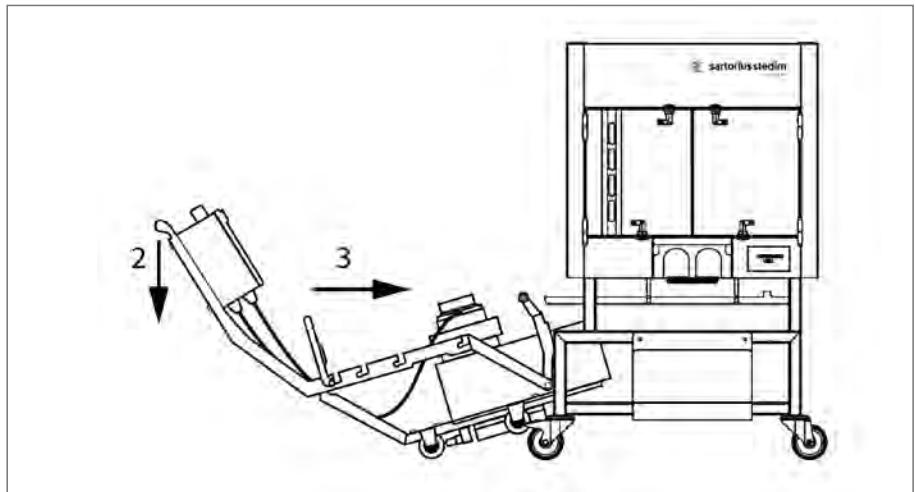

Figure 62
4. Carefully press down on the drive handle (see Fig. 62 | 2) and raise the front wheels off the ground. Align the guide bearings of the LevMixer® drive unit with the guide rails of the Palletank® LevMixer® (see Fig. 62 | 3).